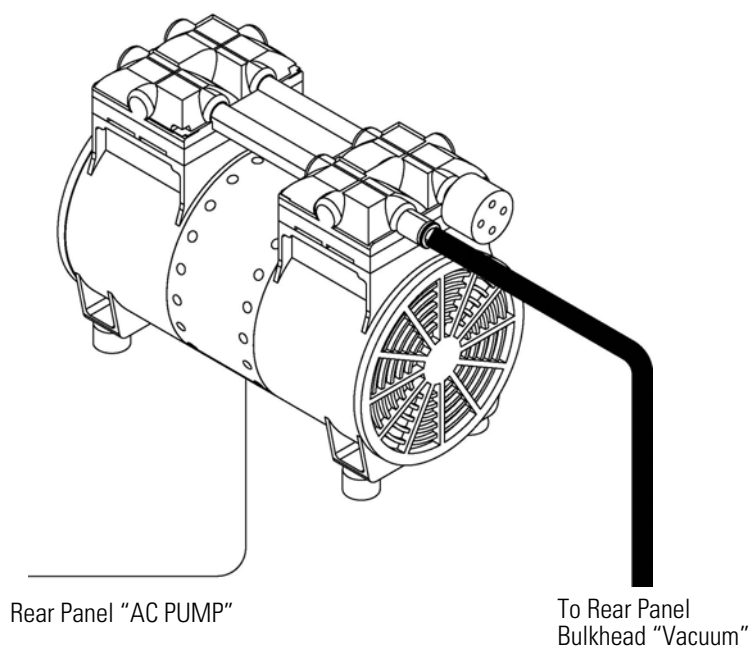

Figure 7–6. Replacing the Pump
Use the following procedure to replace the pressure board (Figure 7–7).
2. Disconnect plumbing from the pressure board assembly (Figure 7–2). Note the plumbing connections to facilitate reconnection.